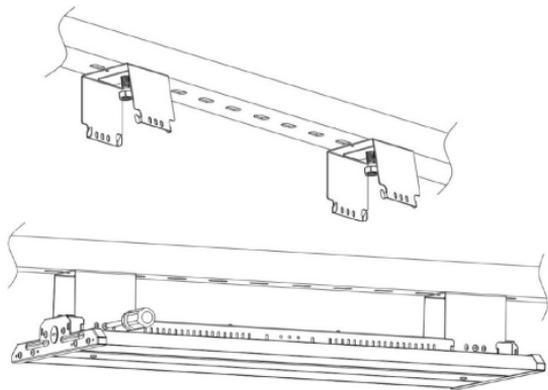

Fig. 1
- For surface mounting using the LWBMOU mounting kit (available separately); fix the mounting brackets to the surface using suitable fixings (not included) and secure the luminaire to the brackets using the screws provided (see Fig. 1). The distance between bracket fixing centres should be 515mm